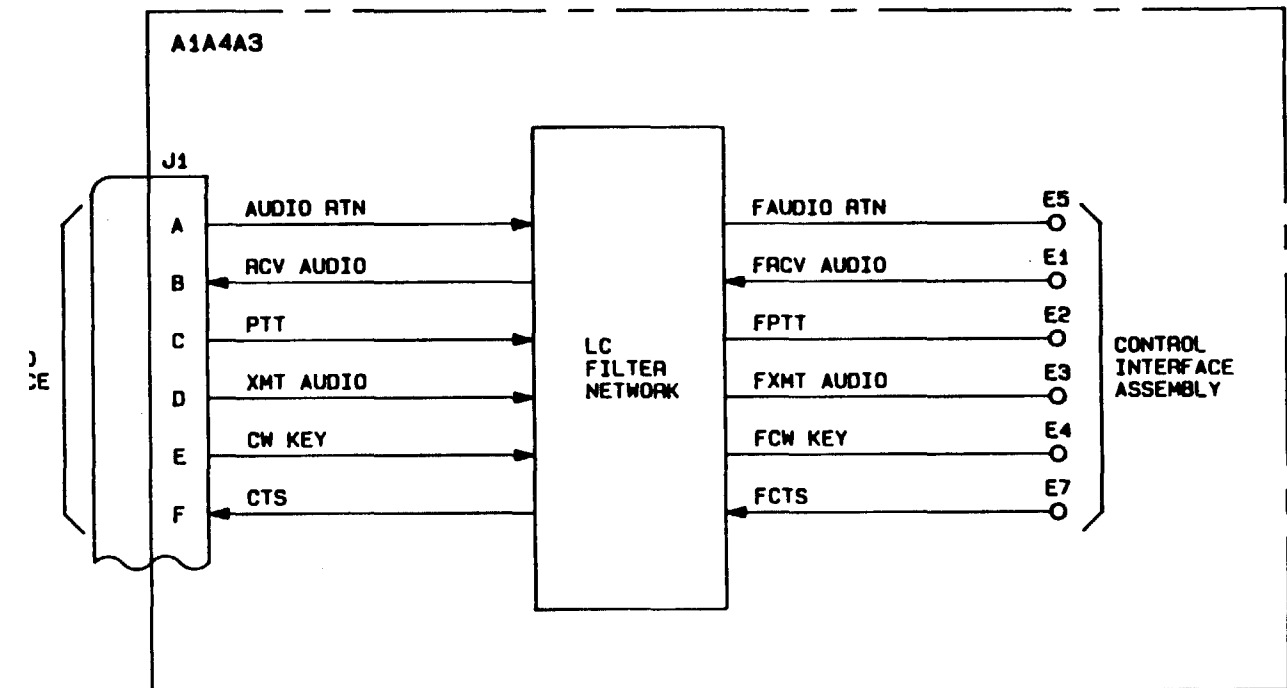

Figure 2-8 Audio Filter Assembly
**AUDIO FILTER ASSEMBLY, fig 2-8**